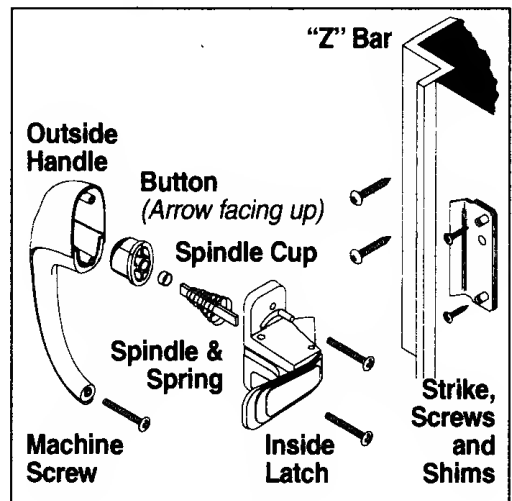

FIGURE 3
**Step 2** - Assemble outside handle with button (arrow facing up), spindle cup, spindle, and spring. Guide this assembly through installation holes from outside of door. See Figure 3.